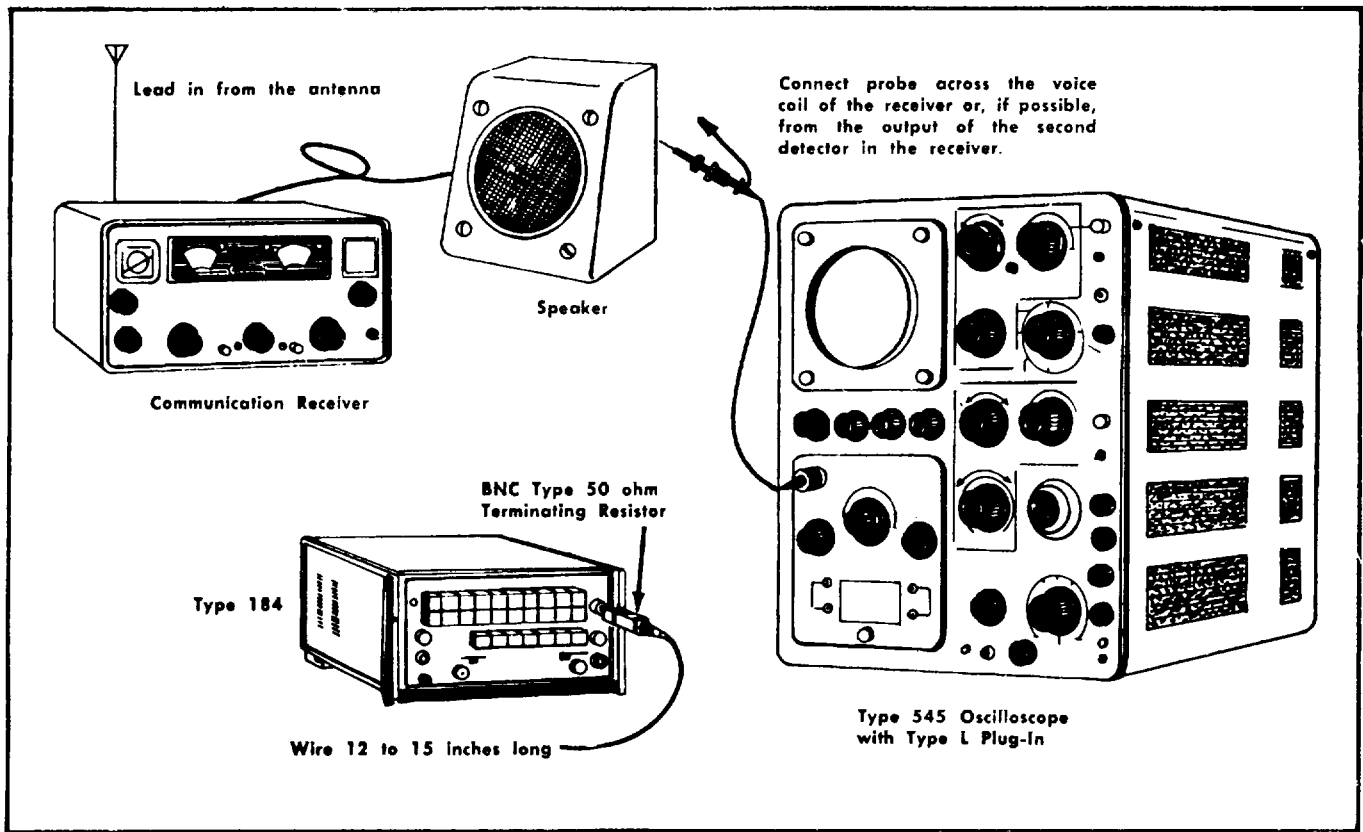

Fig. 6-10a. Suggested setup for adjusting crystal oscillator to laboratory standard. Step 5
a. Test equipment setup is shown in Fig. 6-10a.